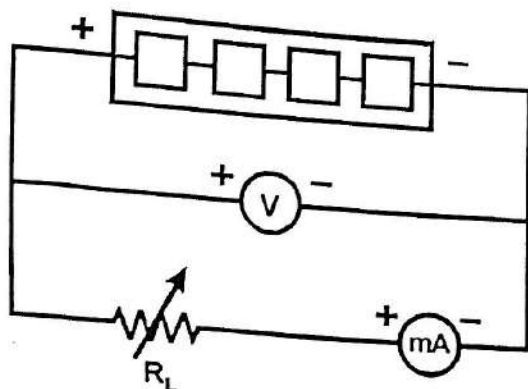

Fig.2
- Complete the circuit connections as shown in the figure (2) below. Then place the light 'S' at a distance of 15 cm from solar cell.
- Once again complete the connections as shown in fig. 2.